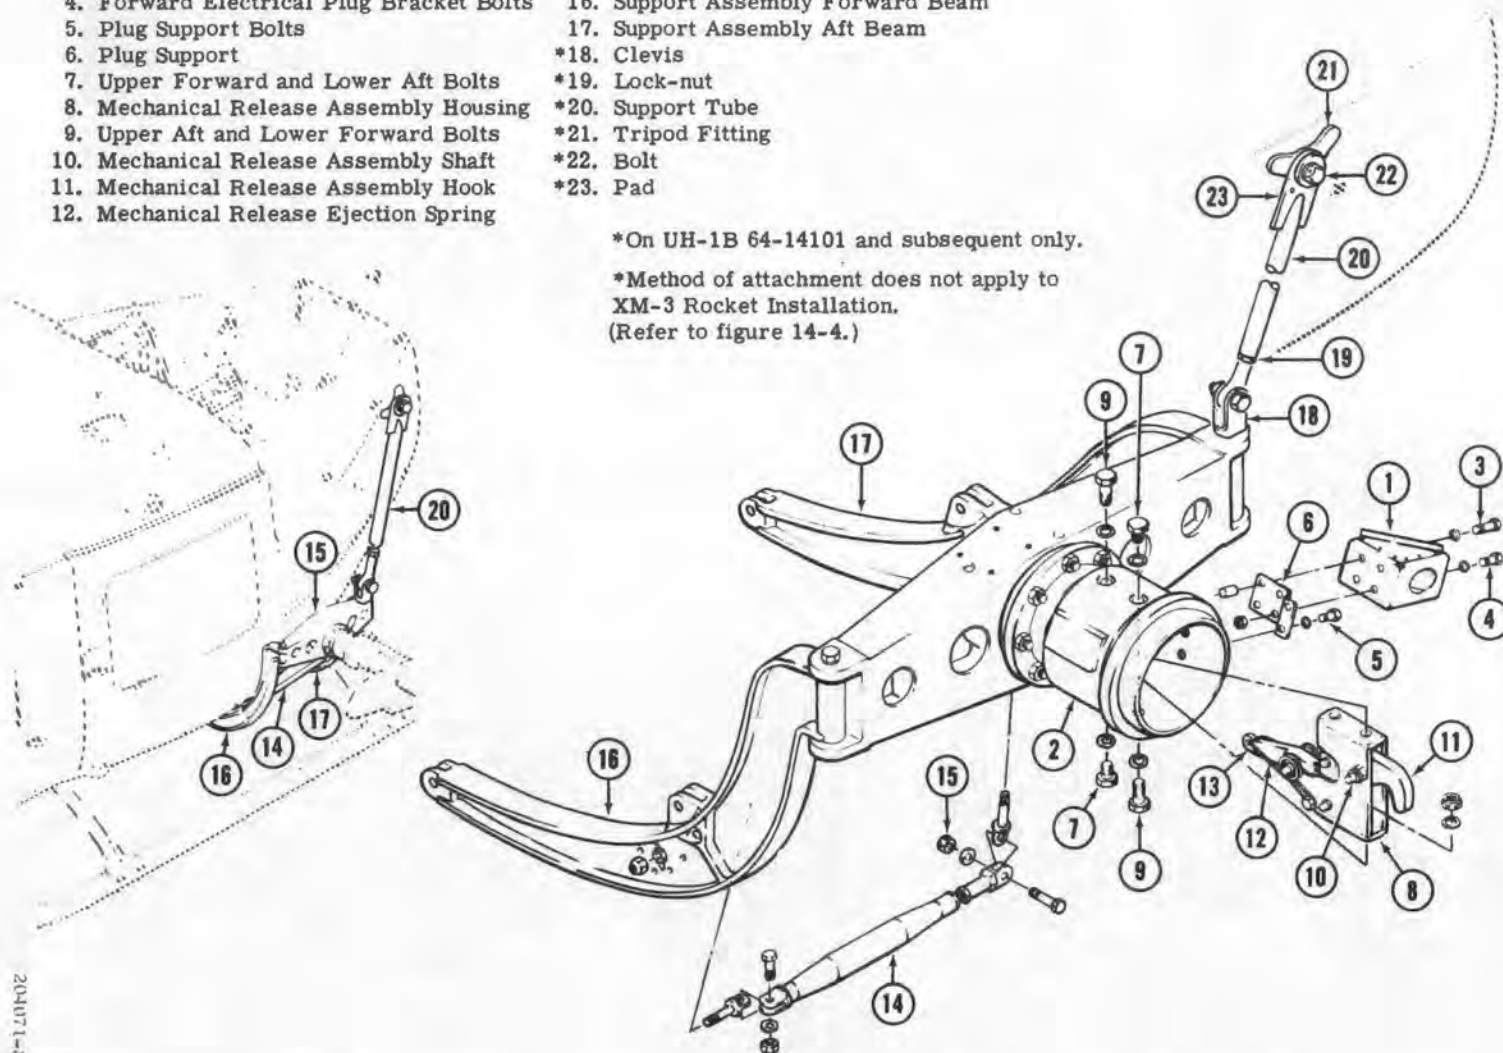

Figure 15-4. Mechanical jettison device and external stores support assembly
15-18. Mechanical Jettison Device. A mechanical jettison device (see figure 15-4) is attached to the center of each external stores support assembly crossbeam. These devices retain the inboard end of the boom assemblies used in conjunction with the SS-11 and XM-22 missile installations. Each mechanical jettison device is equipped with a mechanical release assembly which makes it possible to jettison the boom assemblies in case of emergency. The mechanical release assembly, which is contained in the mechanical jettison device adapter, is actuated by the mechanical jettison lever beside the pilot's seat.
15-19. Removal — Mechanical Jettison Device. a. Remove cotter pin, washer and flat head pin attaching outboard manual release cable to mechanical release assembly bellcrank (13, figure 15-4).
a. Reassemble bellcrank arm assembly to bellcrank (13, figure 15-4) by installing dowel pin.
b. Position mechanical release ejection spring (12) on bellcrank (13). Carefully insert bellcrank and spring into mechanical release assembly housing (8) and install bolt, washer and nut which attach spring ends to housing. Install pins and rings which attach bellcrank to housing and position spring on bellcrank.
c. Position mechanical release assembly hook (11) in housing (8) and install attaching shaft (10), washers and nuts.
d. Insert mechanical release assembly into mechanical jettison device adapter (2) and install upper aft and lower forward bolts (9), washers and nuts. Install upper forward and lower aft bolts (7) and nuts and torque to 95-110 inch-pounds. Safety wire bolts.
e. Position electrical plug support (6) on mechanical jettison device adapter (2) and install two bolts (5) and washers attaching support to adapter. Safety wire bolts.
f. Position electrical plug bracket (1) against electrical plug support (6) and align mounting holes. Install two forward bolts (4), washers and nuts which attach bracket to support. Install two aft bolts (3), washers and spacers which attach bracket (1) to support (6) and mechanical jettison device adapter (2). Safety wire bolts.
g. Position the mechanical jettison device in center hole of external stores support assembly cross beam (15) and install eight attaching bolts, washers and nuts.
h. Attach electrical cable connector to electrical plug bracket (1) by installing screws, washers and nuts. Safety wire each side. Connect electrical wiring to mechanical jettison device.
i. Align end of outboard manual release cable with hole in end of mechanical release assembly bellcrank (13) and install attaching flat head pin, washer and cotter pin.
The external stores support assemblies (see figure 15-4) consist of beams and sway braces which are attached to "hard points" on the
15-22. Removal — External Stores Support Assembly. a. (On UH-1B Serial No. 64-14101 and subsequent.) Remove lockwire and unscrew bolt (22, figure 15-4), washer and pad (23) from fitting (21). Remove bolt, washer and nut that attaches support tube (20) to clevis (18) and lift support tube from clevis.
c. Remove nuts, washers and bolts attaching sway brace assemblies (14) to external stores support assembly and remove sway brace assemblies.
d. Remove nuts, washers and bolts attaching external stores support assembly cross beam (15) to forward (16) and aft (17) beam assemblies. On UH-1B Serial No. 64-14101 and subsequent, remove clevis (18) from under head of rear bolt.
15-25. Installation — External Stores Support Assembly. a. Position external stores support assembly cross beam (15, figure 15-4) between outer ends of forward (16) and aft (17) beam assemblies and install attaching bolts, washers and nuts. (On UH-1B Serial No. 64-14101 and subsequent, fit clevis (18) on rear bolt before installing.)
b. Position sway brace assemblies (14) on external stores support assembly and install attaching bolts, washers and nuts.
d. (On UH-1B Serial No. 64-14101 and subsequent.) Attach rod end of support tube (20) to clevis (18) with previously removed bolt, nut and washer. Adjust support tube as necessary so hole in opposite end of tube aligns with hole in tripod fitting (21). Place washer and pad (23) under bolt head and insert bolt (22) through support tube and screw into fitting. Lockwire bolt.